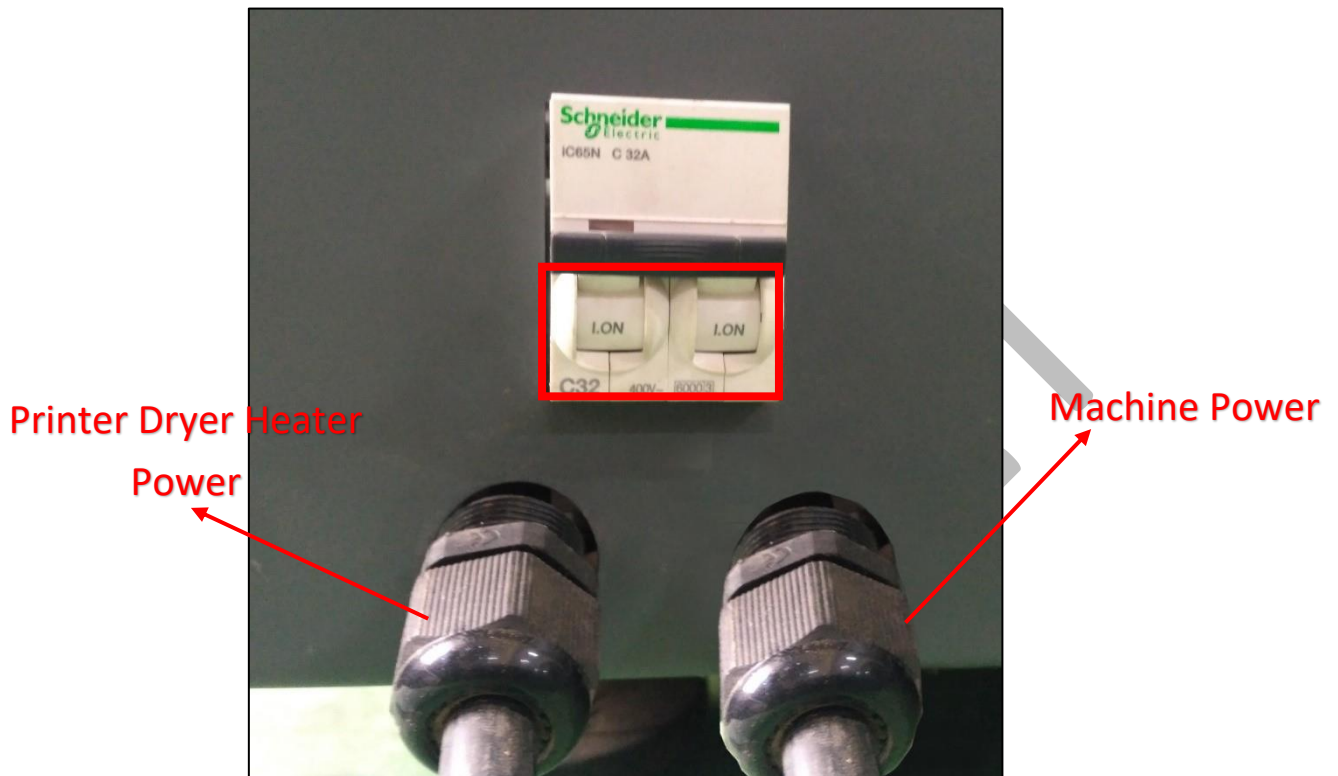

Fig 6: Switch ON the MCB
Step 2: Press the Head Power button from the Control Panel (Refer to Fig 6).